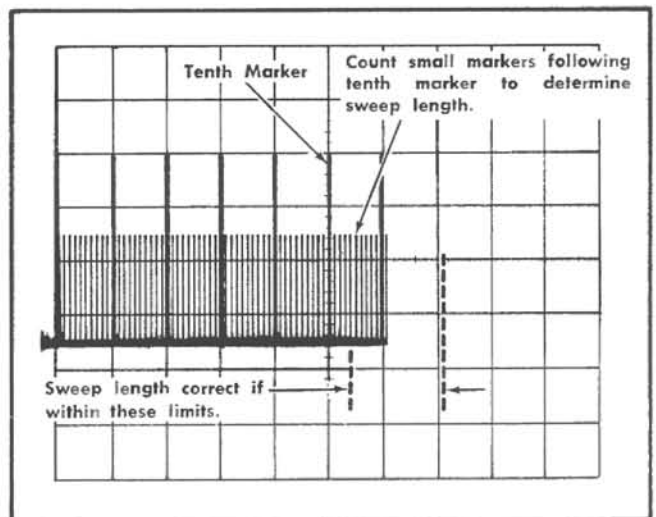

Fig. 6-43. Typical CRT display when checking sweep length.
- a. Position the tenth marker to the center vertical line with the Horizontal POSITION control (see Fig. 6-43).
- b. CHECK—Sweep length between 10.4 and 12.1 divisions as shown by 0.4 to 2.1 divisions of display to the right of the vertical center line (see Fig. 6-43). Large markers in the display indicate divisions and small markers 0.1 division.